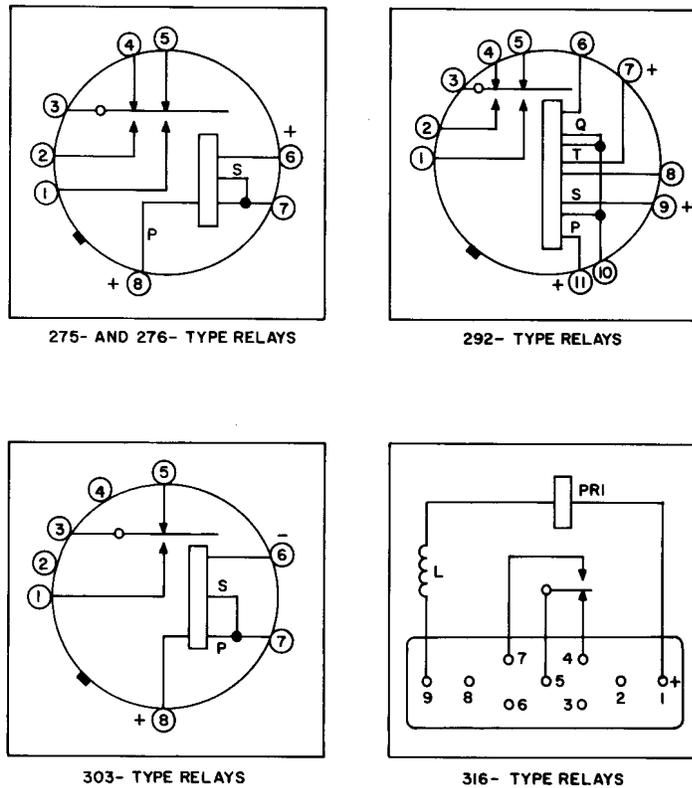

Fig. 2—Winding and Contact Arrangements
4.06 Table C gives the cross-connections on the J94725A, L3 and L4, test sets to be used for testing relays as shown in Fig. 2 and 3.
292-TYPE RELAYS, SHOWN IN FIG. 2 AND